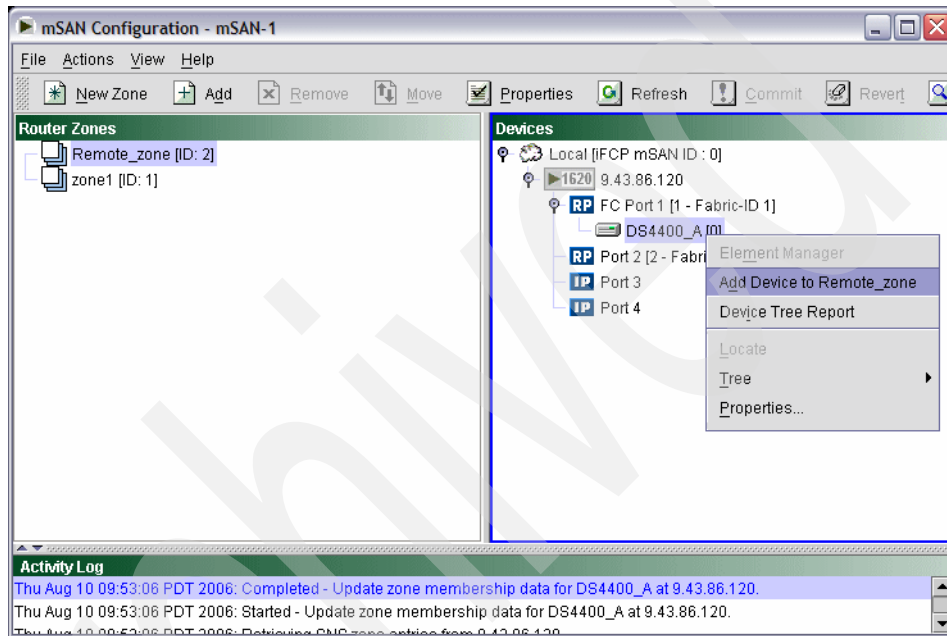

Figure 17-80 Add storage device to remote zone
- b. Add the storage device to the zone, as shown in Figure 17-80: